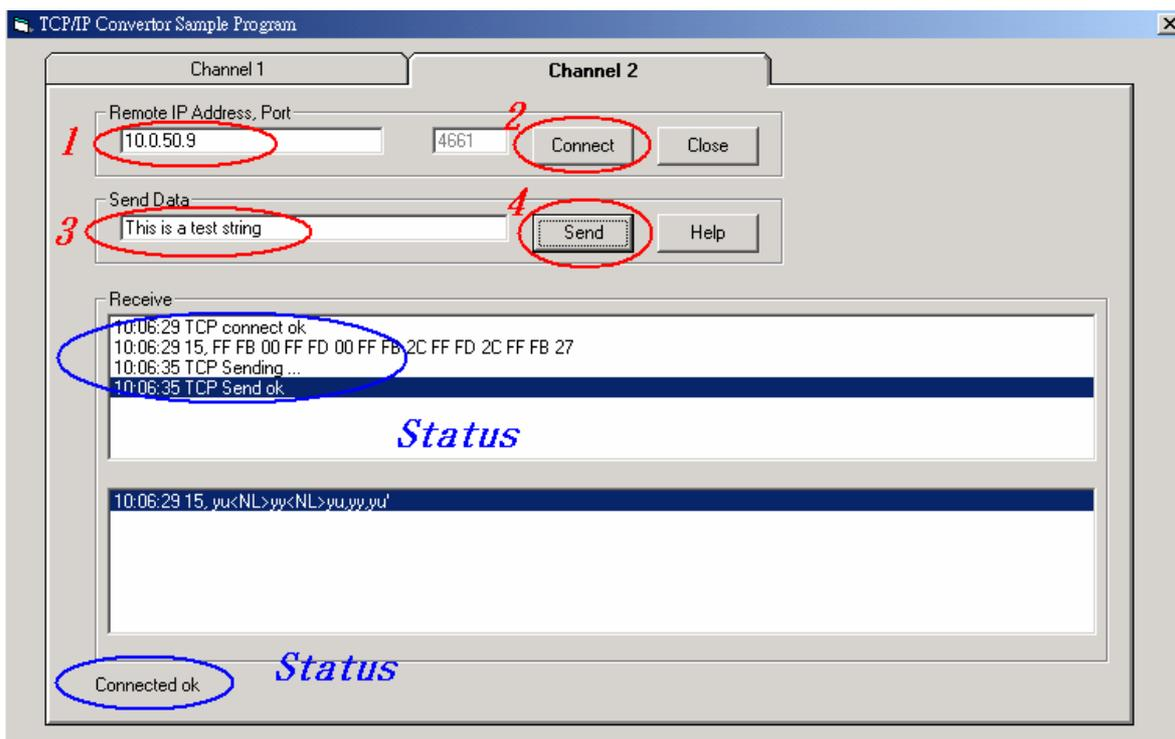

Figure 6.1 TCP test sample program in Visual B
This sample program (Figure 6.1), written in Visual Basic 5.0 with Winsock Controls, shows how to exchange data between host (PC) and SE5404 via Ethernet in two socket ports.